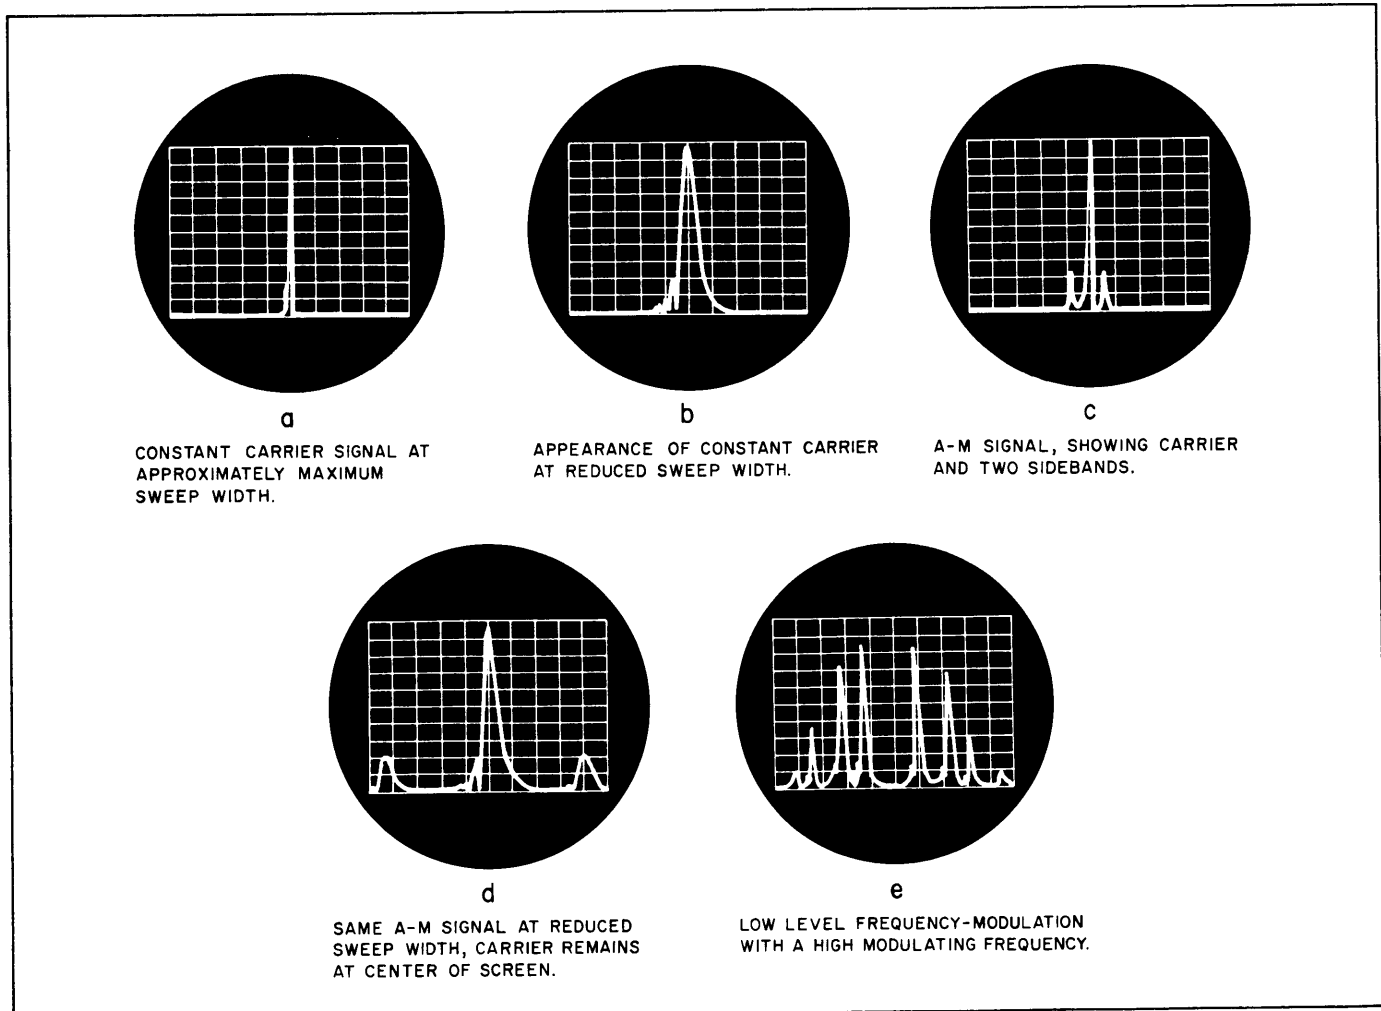

Figure 3-5. Screen Presentations
calibrated screen. However, due to the vast quantity of signals capable of being displayed by the FSA, only a few of the well known signals will be discussed. Figure 3-5 illustrates some of the various crt screen presentations.
a. Constant carrier signals appear as a fixed spike or pip of constant amplitude with width dependent upon the sweep width. See figure 3-5 (a) and (b).
A series of varying amplitude convolutions, their number depending upon the modulating frequency, will be produced by a non-constant low frequency tone modulated signal. As shown in figure 3-5(c) and (d), the nature of the display will depend upon the sweep width.
f. Frequency modulated carriers will appear as a group of vertical deflections. See figure 3-5 (e).